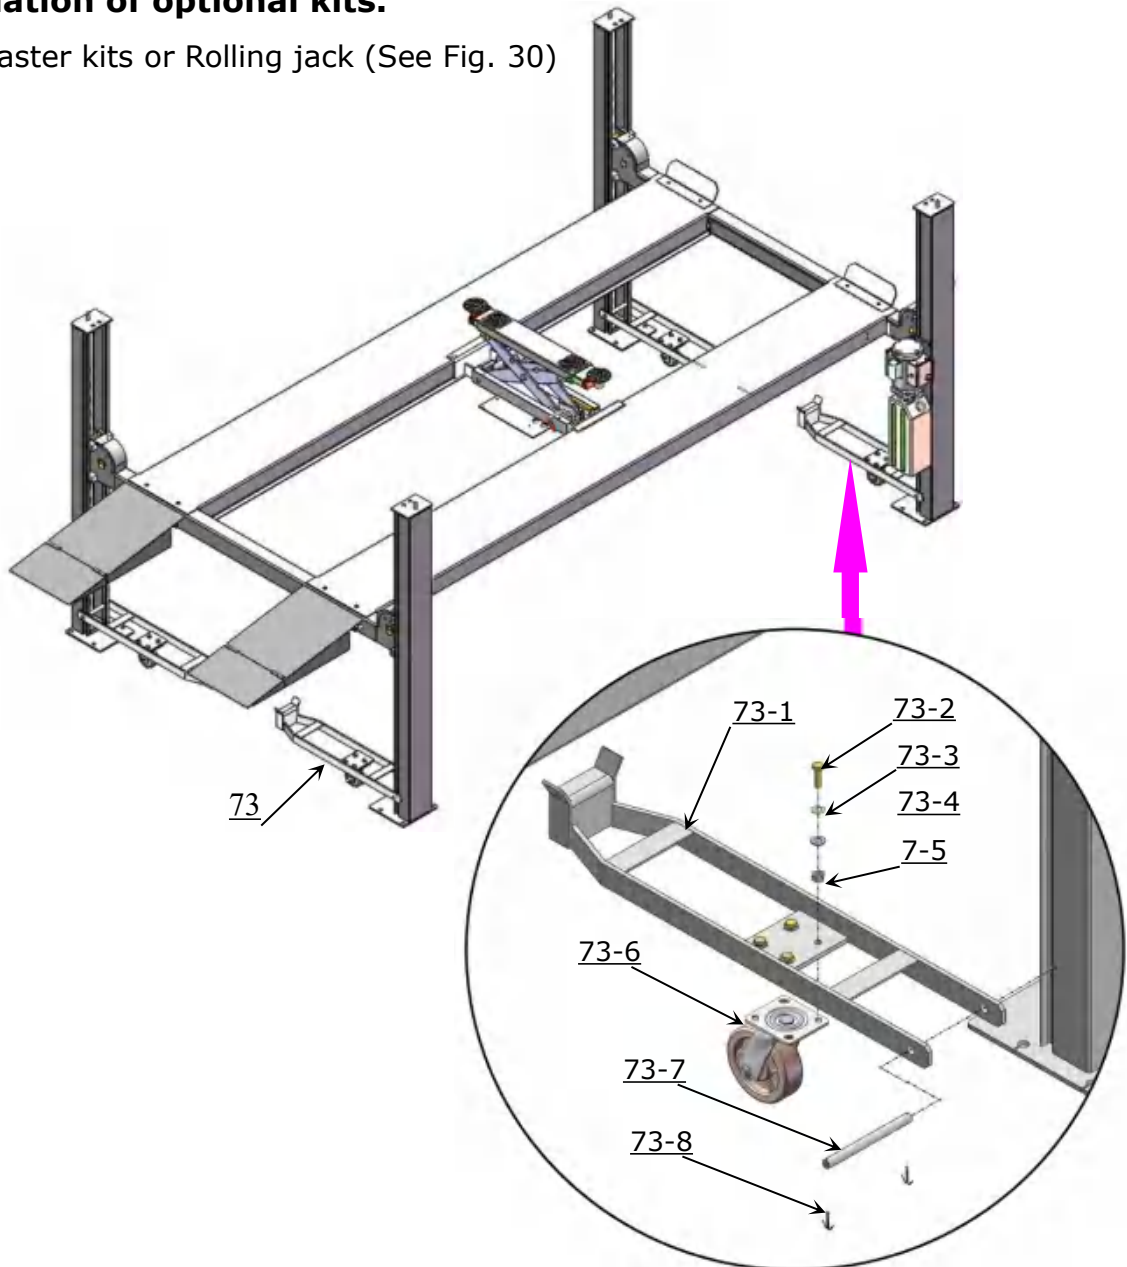

Fig. 30
1. Install caster kits or Rolling jack (See Fig. 30)